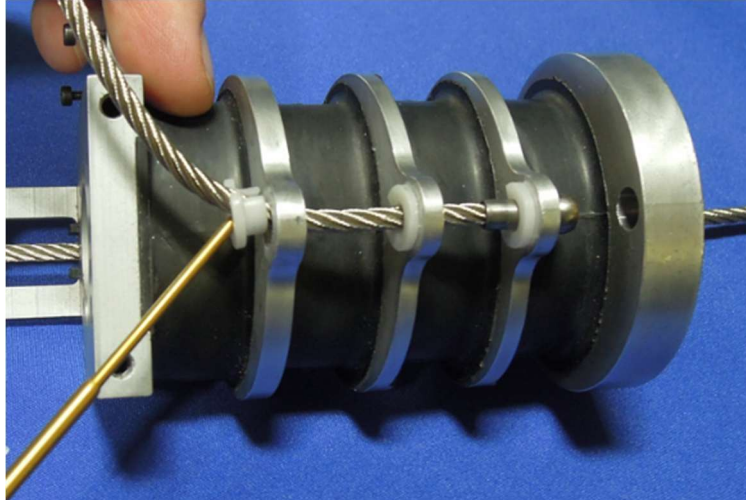
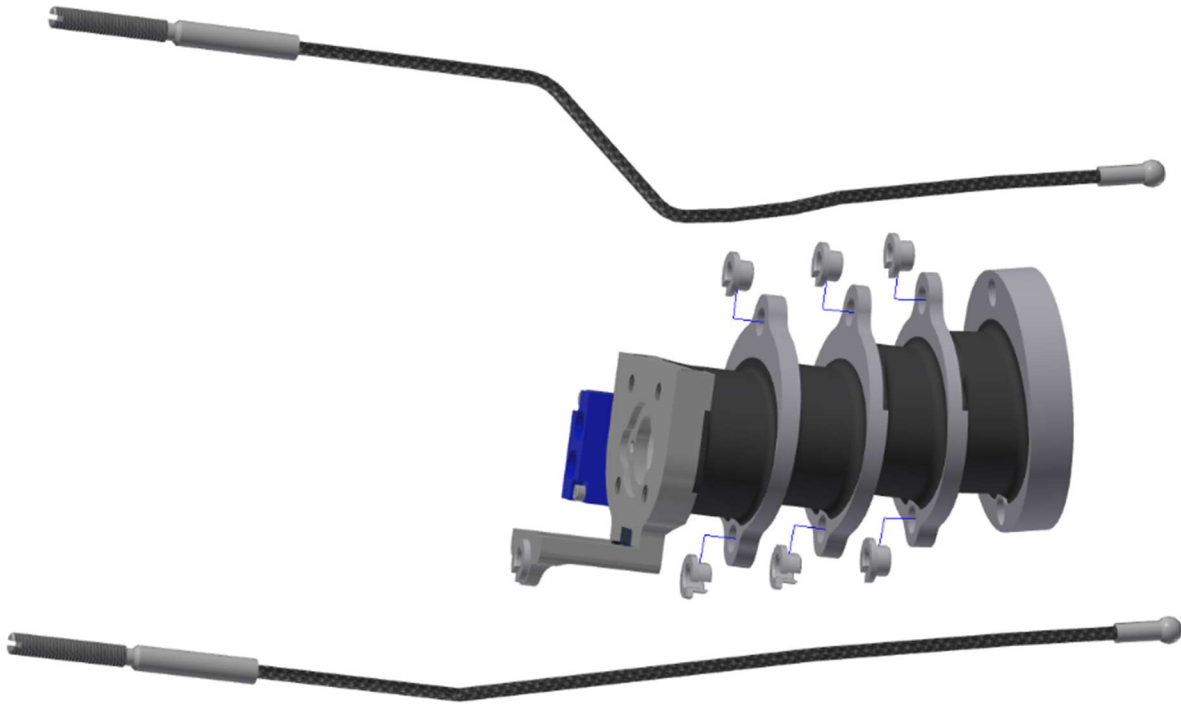

Figure 4-27. A flat head screwdriver can aid in prying the plastic guides from the cables
Figure 4-28. Removed rear neck cable with cable guide halves
- 4.2.17 Remove seven plastic cable guides halves (474-2332) from front and rear of molded neck assembly. A flat head screwdriver can aid in prying the plastic guides from the cables (Figure 4-27). Remove the front and rear cables from the neck assembly by pulling them through the top of the neck column (Figure 4-28).